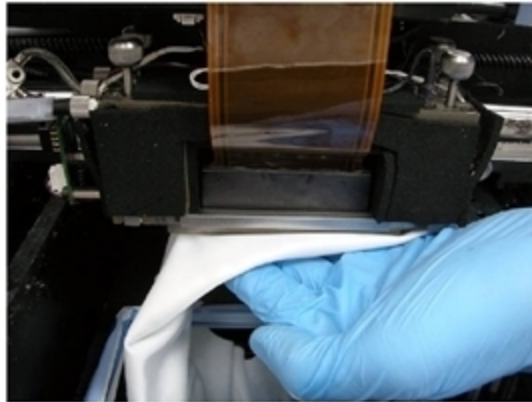

Figure 6-41 Cleaning the heads
9. Clean the orifice plates, with a back-and-forth motion (see Figure 6-41). Use the mirror to make sure that you have removed all of the residue material.